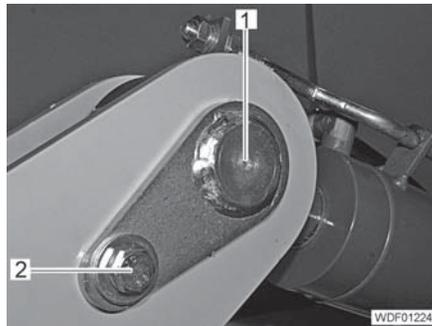

Fig. 202 Rod end attachment
- Drive in the pin (Fig. 202,1).
- Screw in and tighten the screw (Fig. 202,2) with the washer.